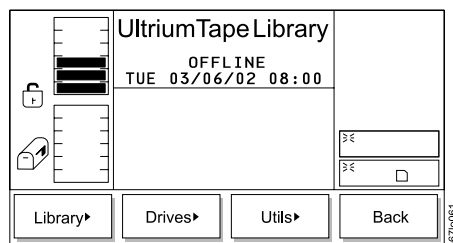

Figure 226. Setup Menu
2. Press the button below the **Setup** softkey. The Setup Menu displays (see Figure 226).